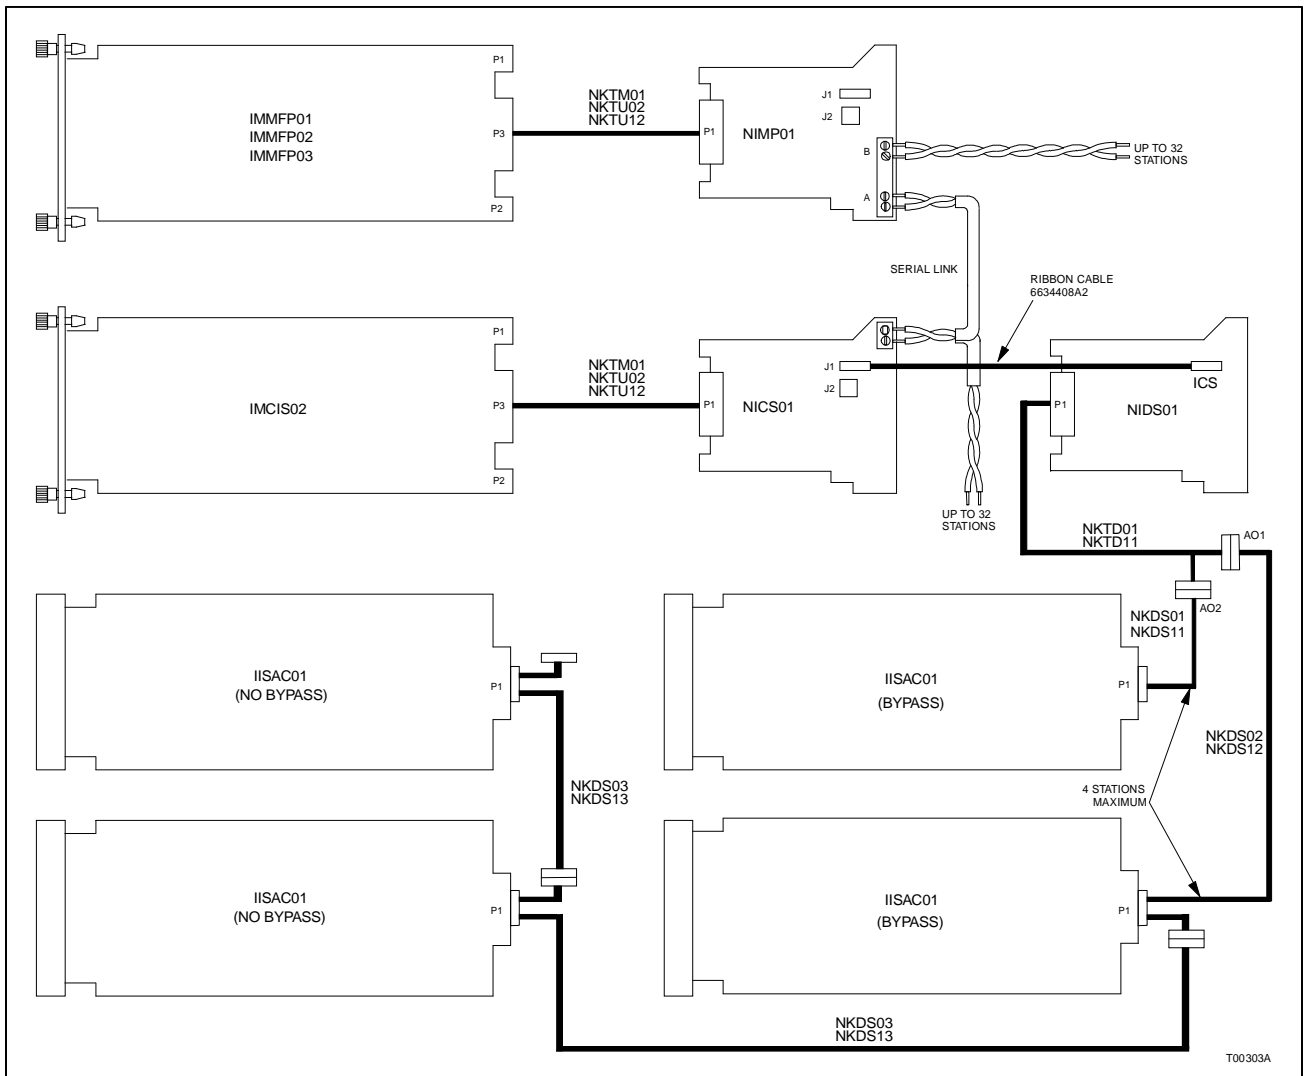

Figure 3-8. Cable Connections for the ICS and IDS Modules with Interconnected Stations and Bypass
6. Figure 3-8 shows a termination module and single station with bypass and interconnection configuration with 1 bypass and 2 nonbypass stations. A maximum of 4 stations can be interconnected together.